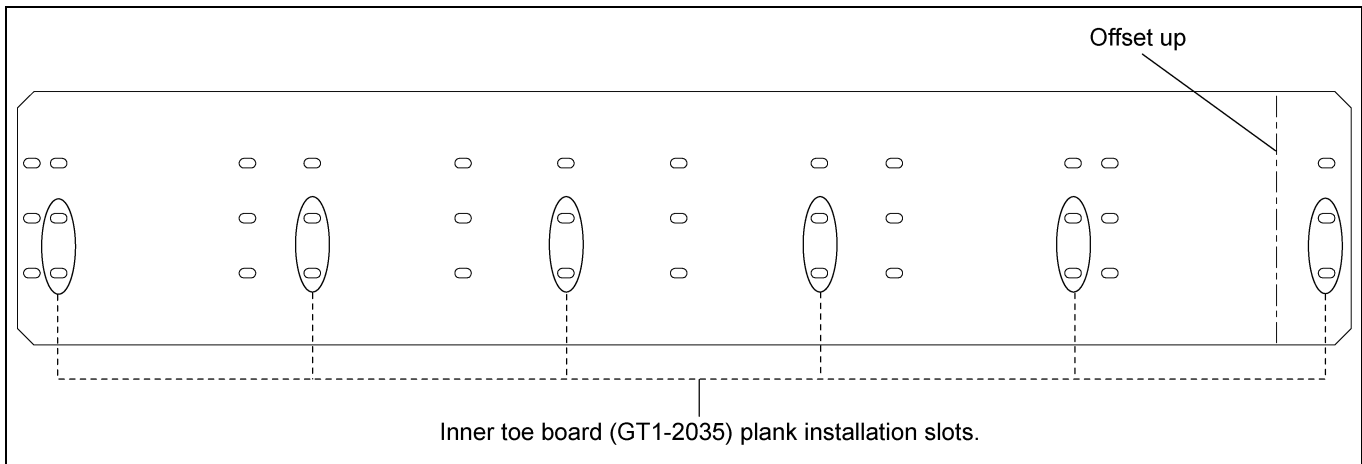

Figure 6N 24' Inner Toe Board (GT1-2035)
2. Inner toe board (GT1-2035) is arranged with many slots to install plank. Install offset and roof hatch planks to corresponding slots as shown in Figure 6N.